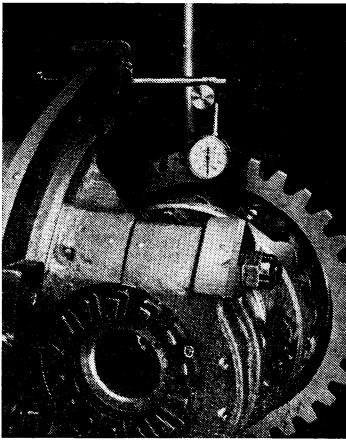

Fig. 68 Adjust differential assembly to .000" (zero) end play, using dial indicator against side face of spur gear
8. Using dial indicator at side of spur gear, Fig. 68, adjust differential assembly to zero end play in differential bearings.